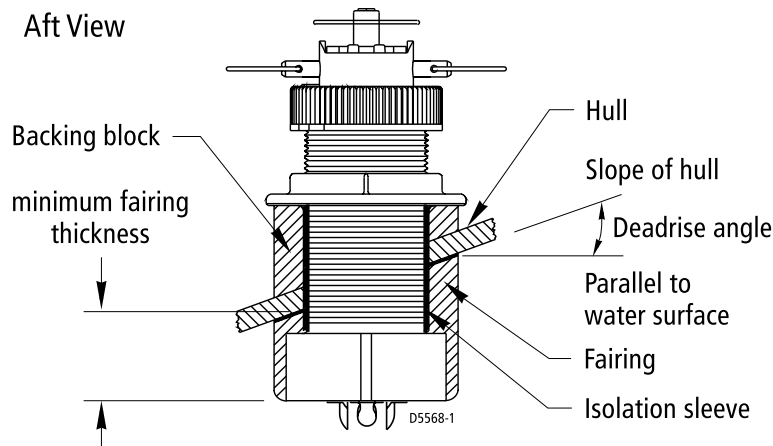
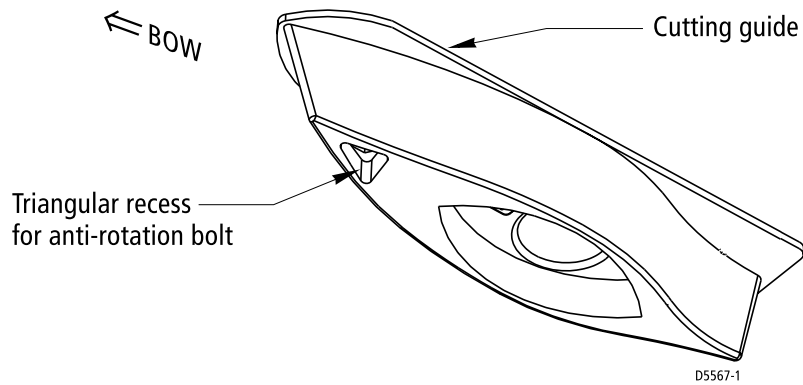

Figure 2-9: Deadrise Angle and Fairing Thickness
Figure 2-10: Transducer Fairing
A backing block is used inside the hull to provide a level surface for the hull nut to seat against (see Figure 2-9). After cutting the fairing, use the remaining section with the cutting guide as the backing block (see Figure 2-10).
1. Measure the deadrise angle of the hull at the selected location using a digital level, or bubble level and protractor (see Figure 2-9).
1. Drill a 1/8" (3 mm) pilot hole perpendicular to the water line from inside the hull (see Figure 2-9).
2. Stainless steel transducer in metal hull - Slide the appropriate size isolation sleeve over the cable and onto the stem of the transducer as far down as possible (see Figure 2-9).